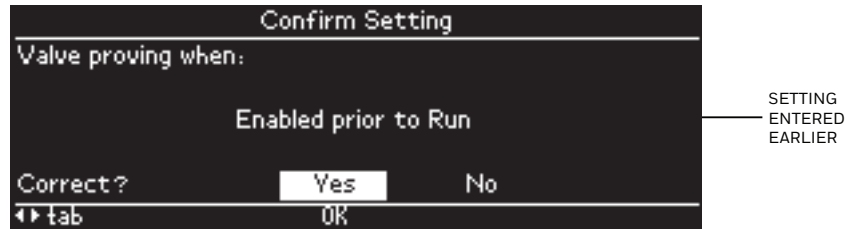

Fig. 72. Confirm valve proving when option
- Valve Proving (VP) when confirmation (when VP is disabled *and* postpurge time is not supported in BC) – see Fig. 72
- Valve Proving (VP) when confirmation (when postpurge time is not supported in BC) – see Fig. 72